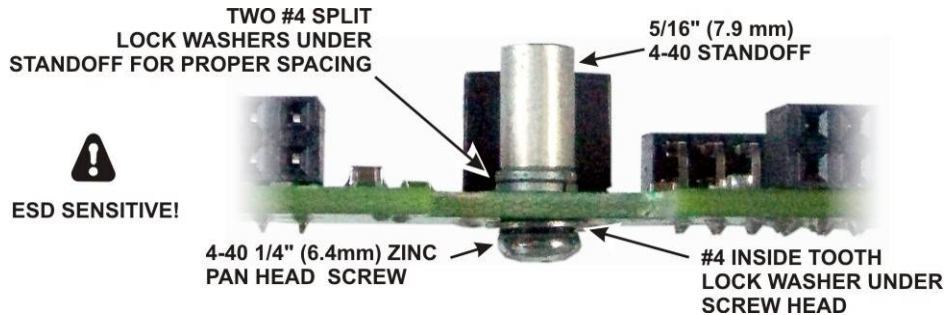

Figure 10. Installing Standoff on the KPAIO3A Board.
□ On the KPAIO3A board, install a 5/16" (7.9 mm) 4-40 standoff near K1 as shown in Figure 10. Use the exact hardware shown from the KPAIO3 envelope. This is important so that the height of the standoff is correct when it is mounted in the K3S/K3.